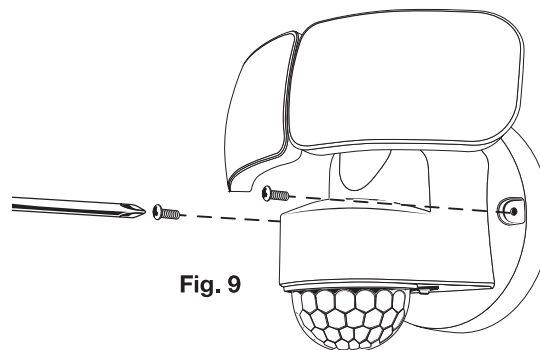

Fig. 9
5. Insert the 2 short stainless steel screws through the 2 holes on each side of the mounting base and secure the fixture to the junction box **(Fig. 9)**. Restore the power to the junction box. Make sure the wall switch that controls the electrical box for the security light is returned to the "ON" position and check that the light is functioning properly.